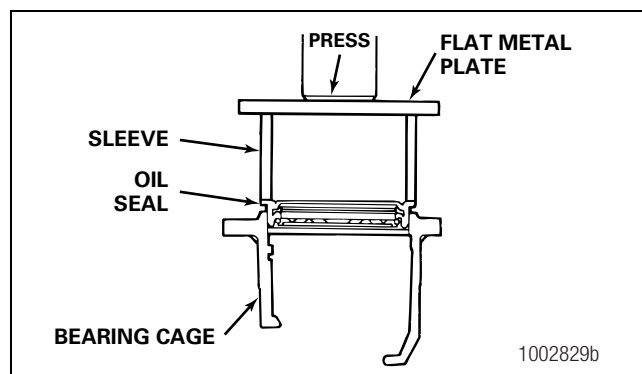

Figure 5.110
- C. Use a press and sleeve, or a mallet and sleeve, to install the seal into the cage. The seal is correctly installed when the metal flange of the seal seats on the top of the cage. Figure 5.110.